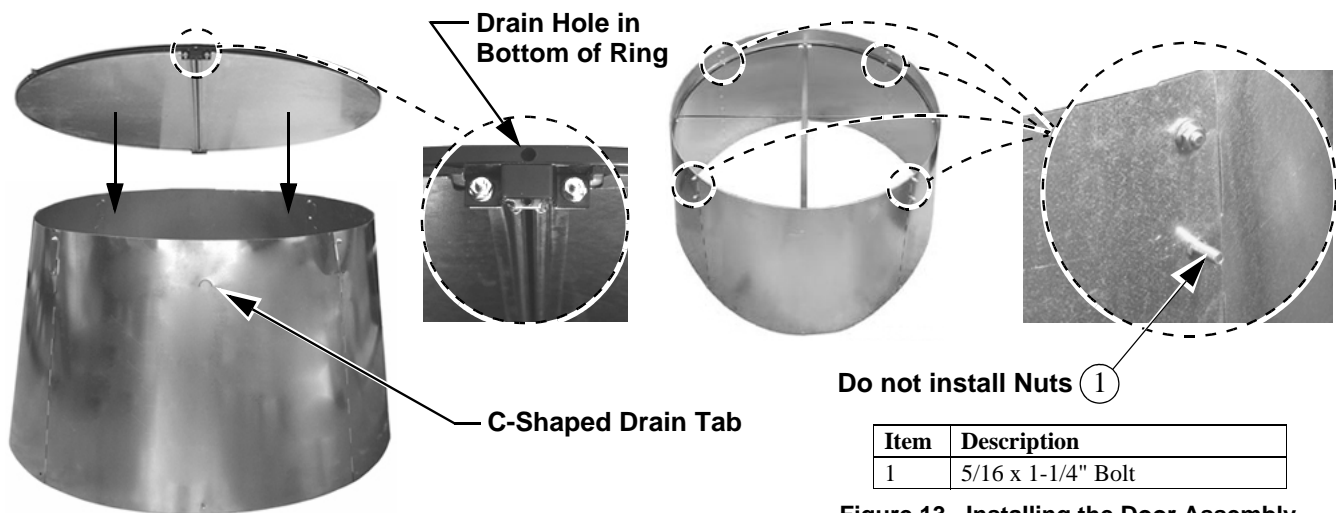

Figure 13. Installing the Door Assembly
Orient the Door Assembly such that the bottom is lined up with one of the C-Shaped Drain Tabs in the Cone Assembly. The bottom of the Door Assembly can be identified by a drain hole in the Ring (**See Figure 13**). Line up the Four Holes in the Door Ring with the holes in the Cone and thread (4) 5/16 x 1.25" Bolts (**Item 1**) in until they are tight. Do not install Nuts at this time. These Bolts will be used later to attach the Cone Brackets to the Cone Assembly.